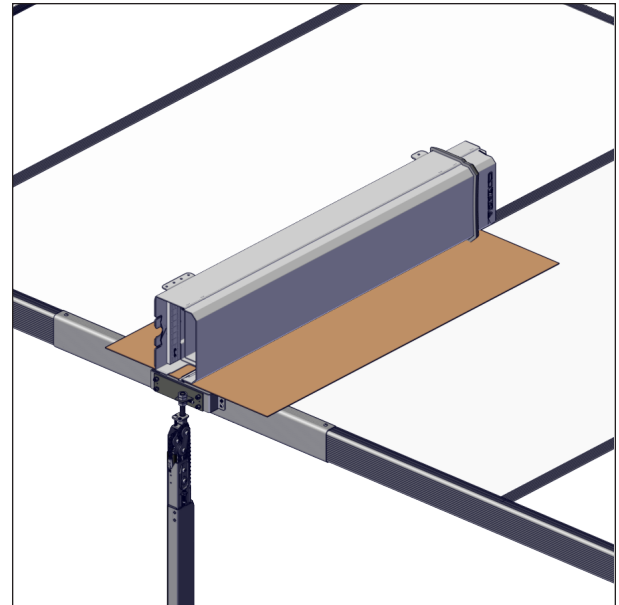

FIGURE 74: PLACE A SLEEVE ASSEMBLY ON THE COVER
- To make the next step easier, place a piece of cardboard on the I-beam of the cover, and lay one of the sleeve assemblies on it, see Figure 74.